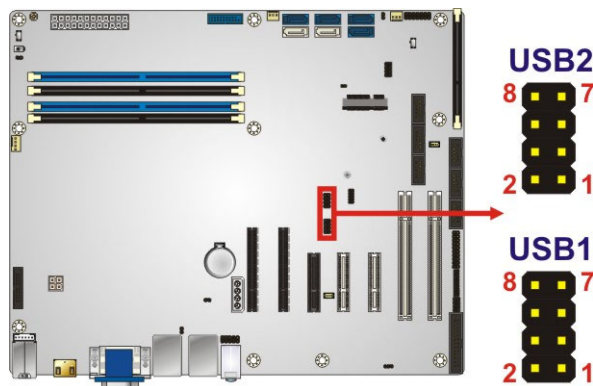

Figure 3-32: USB 2.0 Connector Pinout Locations
- CN Location:** See **Figure 3-32**